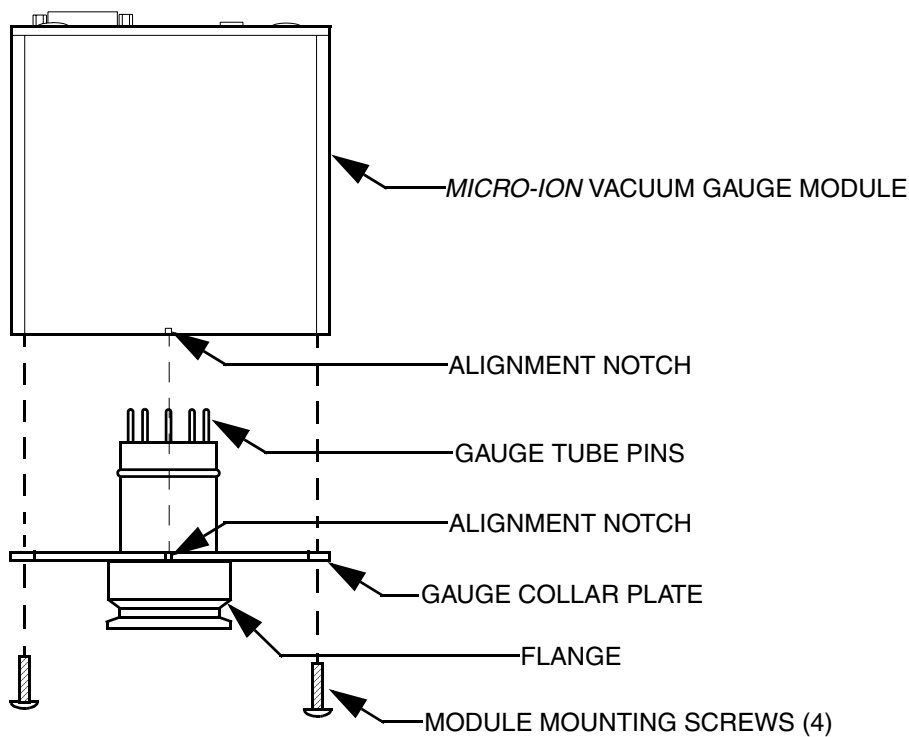

Figure 4-2: Module Removal for Baking Process Chamber
3. Remove the four Phillips head screws from the gauge collar plate as shown in Figure 4-2.
4. While holding the flange, *gently* pull the Micro-Ion Vacuum Gauge Module away from the gauge collar plate as shown in Figure 4-2. The gauge tube and plate will disconnect from the module.
6. Align the notches on the gauge collar plate and the Micro-Ion Vacuum Gauge Module as shown in Figure 4-2.